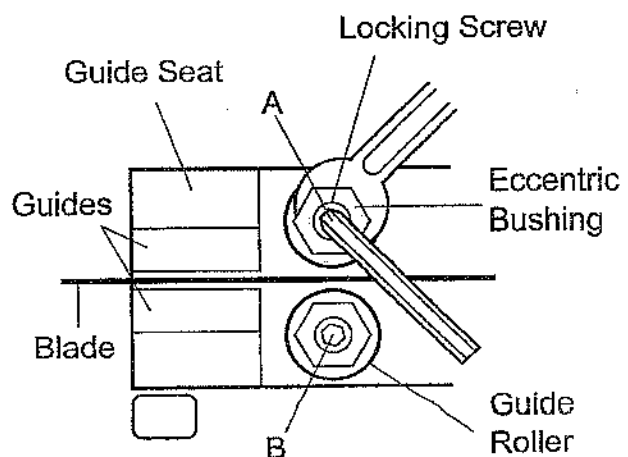
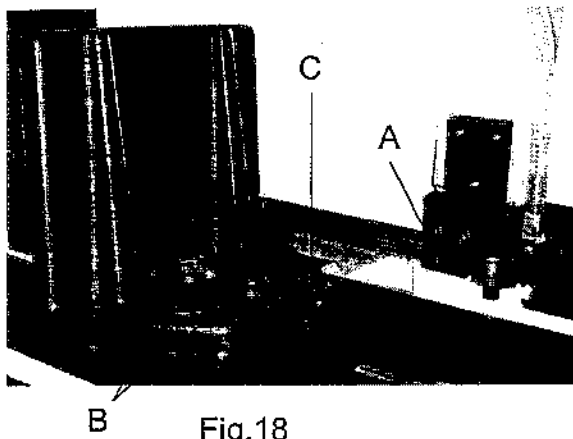

Fig. 17
Fig.18
Note: Only bearing (A - Fig. 17) is adjustable. Bearing (B - Fig. 17) is fixed.
guide adjustment screw (Fig. 17) and hex socket cap screw (A - Fig. 18). Slide blade guides away from blade.
3. Loosen locking screws (A - Fig. 17) by using a hex wrench.
4. Adjust the eccentric bushings with a combination wrench until the ball bearings are snug to the blade (A - Fig. 17) Note: blade should travel freely up and down between the ball bearings. Do not pinch the blade.
5. Tighten locking screws (A - Fig. 17).
6. Slide blade guides back into contact with blade and tighten thumb screw (Fig. 17) and hex socket cap screw (A - Fig. 18).
3. Use one hand to lift up the rack block (C - Fig. 18) and slide back the movable vise jaw.